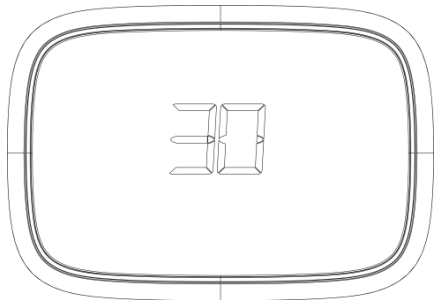

Fig.28.
1. Press and hold the  key for approximately 3 seconds until the screen changes. The thermostat locks out all touch keys for 30 seconds to allow for cleaning and starts counting down. See Fig. 28.